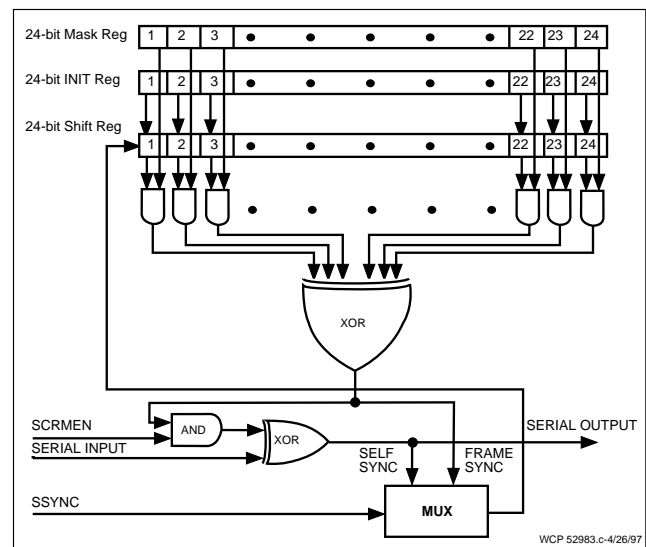

Figure 3. Scrambler Block Diagram
The scrambler can be used to randomize the serial data in order to avoid a strong spectral component that might otherwise arise from the occurrence of repeating patterns in the input data. The Scrambler (Figure 3) uses a Pseudo-Random (PN) generator to generate a PN code pattern. All 24 registers are presettable and any combination of the registers can be connected (tapped) to form any polynomial of up to 24 bits. The scrambler may be either frame synchronized or self synchronized. Table 6 shows the registers involved.